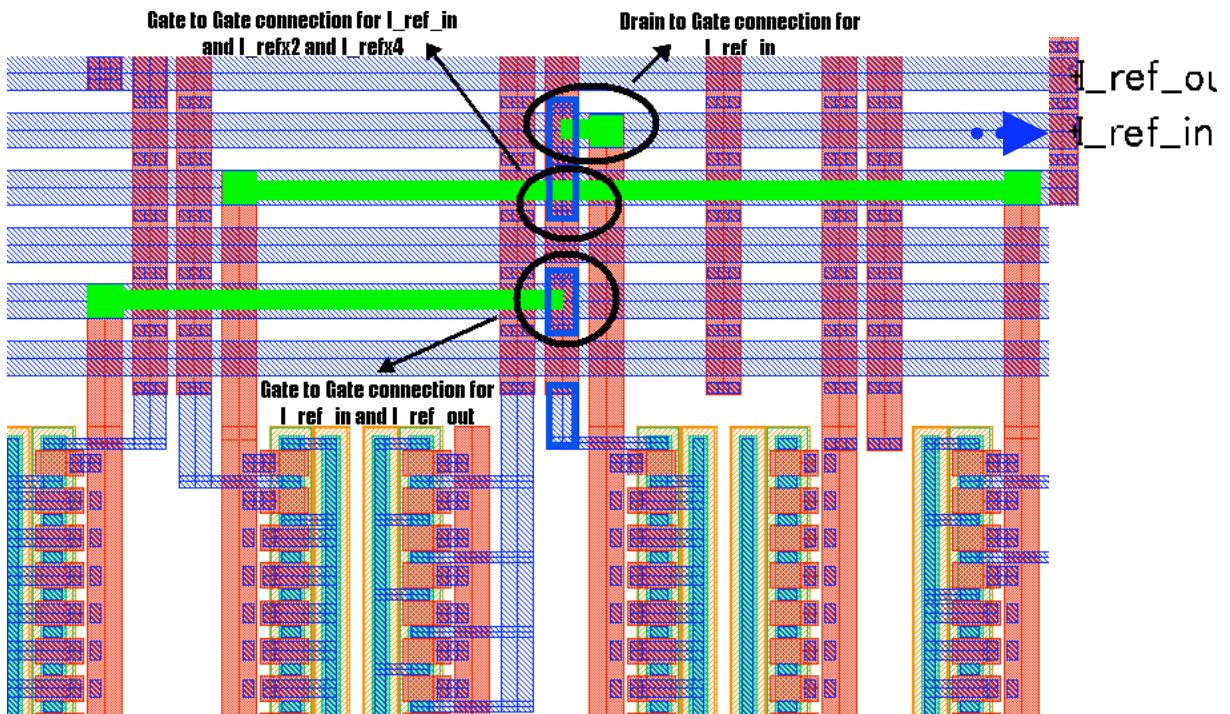

Figure 78: Signal routing and labeling for I_ref_in.
18. Repeat step 12 to 15 for the next leaf, which according to the Bubble Schematic is **I_ref_in** (Figure 78). Remember to create a label right next to the 5th row of metal line (from the bottom) for it (Figure 78).